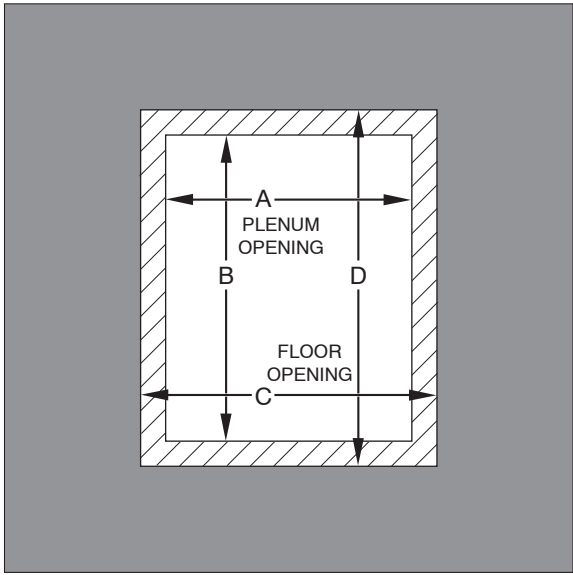

Fig. 11 - Floor and Plenum Opening Dimensions
2. Construct hole in floor per Table 3 and Fig. 11.
3. Construct plenum to dimensions specified in Table 3 and Fig. 11.